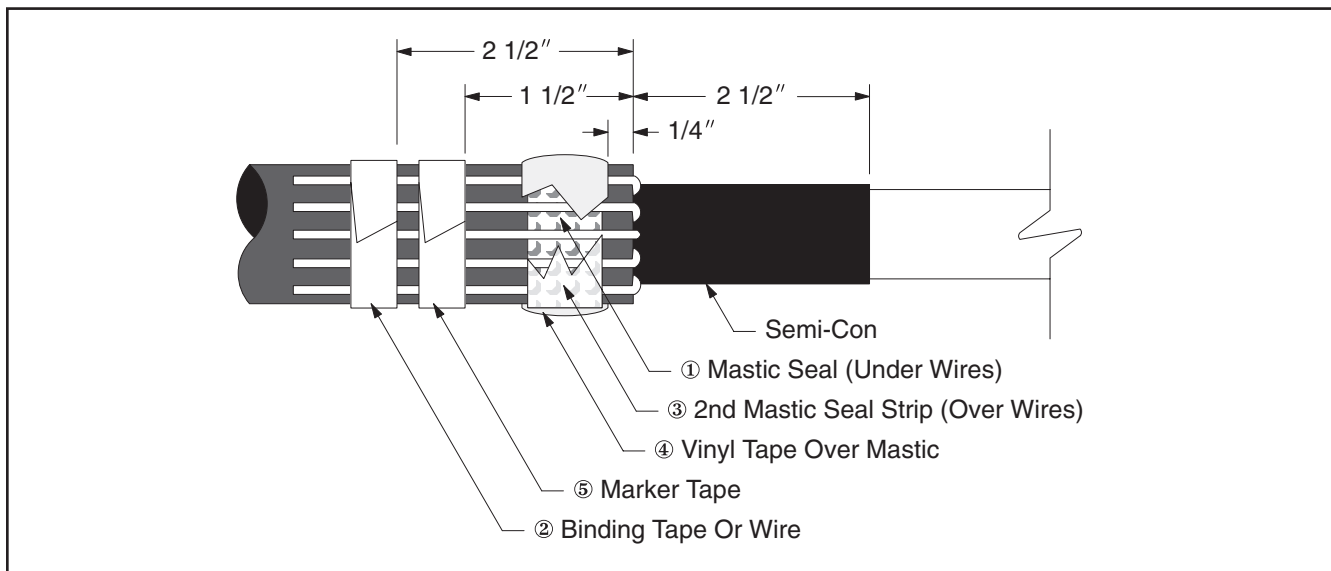

Figure 2
- 1.5 Bend neutral wires back over applied sealing mastic and secure to cable jacket 2 1/2" (64 mm) below cut edge using vinyl tape or binding wire ② (Figure 2).
- 1.6 Select second mastic strip from kit and remove white release liners. Apply a second mastic band over the neutral wires and previously applied mastic ③ (Figure 2). Cut off excess
- 1.7 Compress neutral wires into mastic by over-wrapping seal strip with two highly stretched layers electrical grade vinyl tape ④ (Figure 2).
1.8 Place a marker tape 1 1/2" (38 mm) back from the jacket cut edge ⑤ (Figure 2).